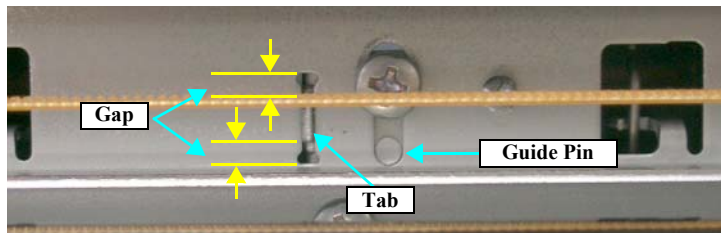

Figure 4-35. Checking the Position of Tab on the Guide Roller LD
4. Align the Guide Pin and the tab on the 0 Digit Side Guide Roller LD with the positioning holes on the Main Frame, and tighten the Guide Roller LD (0 Digit Side) with the screws. See Figure 4-35.